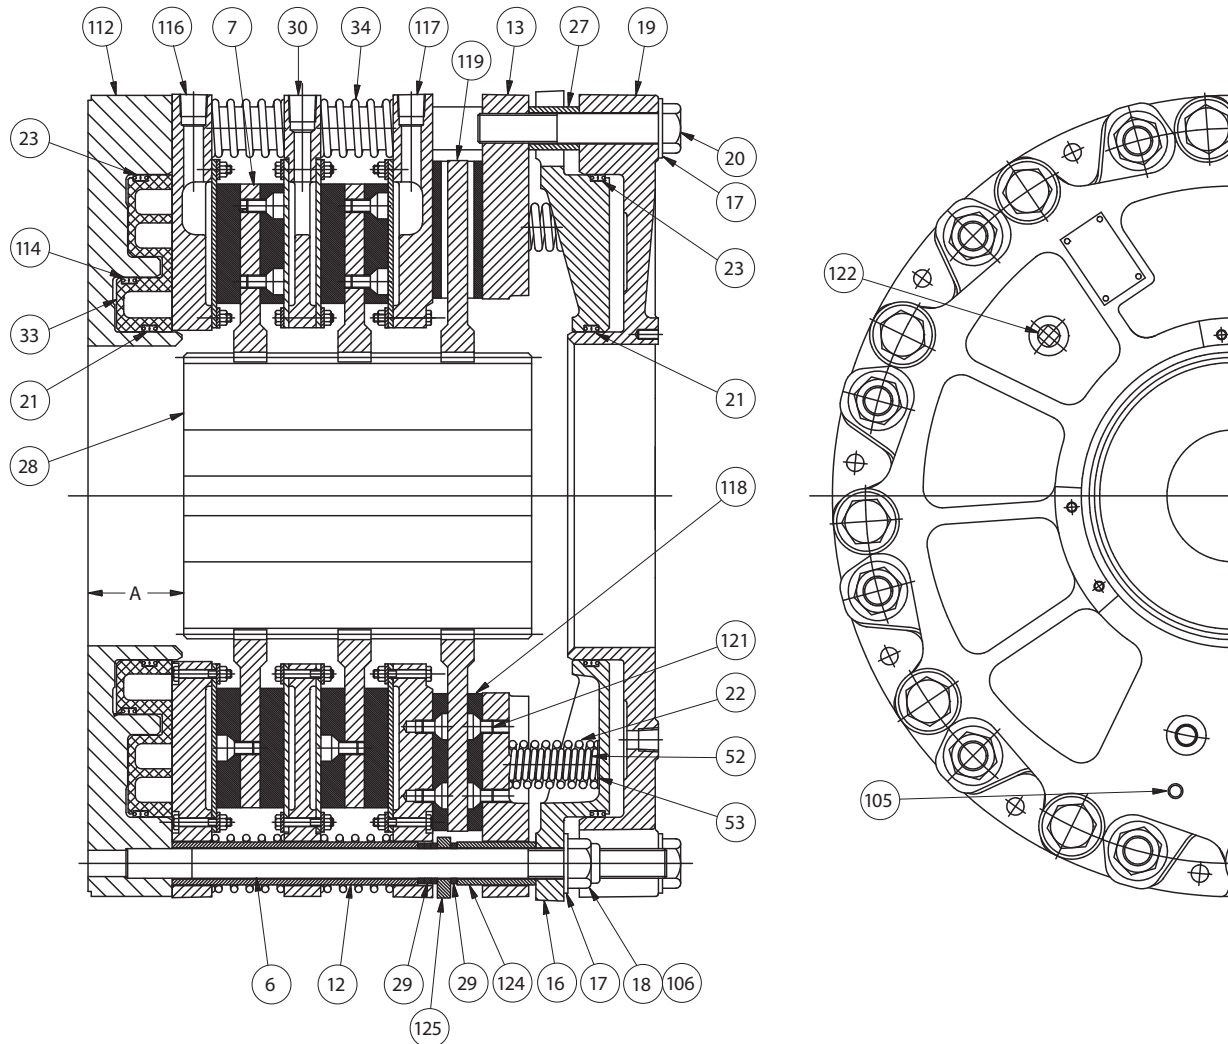

Figure 1
1.1.4 The air applied pistons in the WCSB tensioner/brake assemblies are available in either single or dual piston designs. The WCSB tensioner/brake assemblies dual mounting flange/cylinder (112) and dual piston (33) assembly (112) offers precise tensioning control by dividing the piston/cylinder into inner and outer chambers that are isolated by intermediate seals (114). Also, for light tensioning loads, the inner chamber is used, not the outer chamber. See Figure 1. This provides the ability to improve fine modulation of clamping pressure on the tensioner discs and improved control over our standard single chamber design. For very light tensioning loads, the outer piston can be used solely, with no pressure applied to the inner piston. For the largest tensioning loads, both pistons can be used together. If it is desirable to operate the WCSB tensioner/brake assembly at maximum tensioning load and not utilize the precise tensioning feature, the WCSB tensioner/brake assembly can be ordered without the intermediate piston seal (114).
1.2.1 Referring to Figure 1, the gear (28) is mounted on the shaft which is to be stopped and the tensioner assembly is attached to the machine frame or a reaction bracket.
2.1.4 Refer to the appropriate assembly drawing for the setup dimension between the tensioner mounting surface and the end of the gear (dimension "A" on Figure 1). Gears should be positioned to ensure that when the tensioner is mounted the disc splines will not overhang the end of the gear when components are in both new and worn conditions. The gear is typically bored and keyed for a resulting Class FN2S interference fit for inch shafting and ISO System S7h6 for metric shafting. Contact Airflex Application Engineering for specific recommendations.
2.2.4 Heat the gear uniformly to 250 °F (121 °C) to expand the bore and ease assembly. Press the gear onto the shaft, making sure that the dimension between the gear and the tensioner mounting surface ("A") is maintained. See Figure 1. Allow the gear to cool.